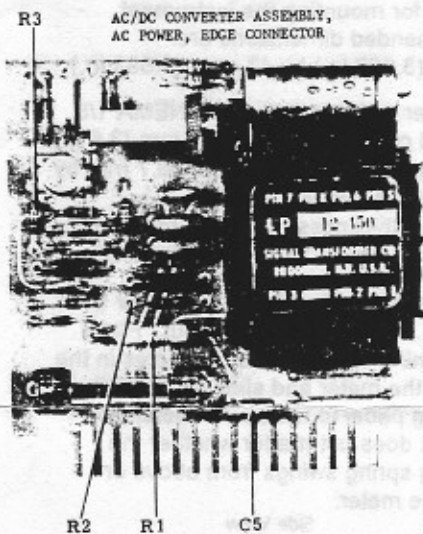

Figure 5: Component Location
5. Install the resistors specified in Table I to obtain desired range. See Figure 5 for component locations.